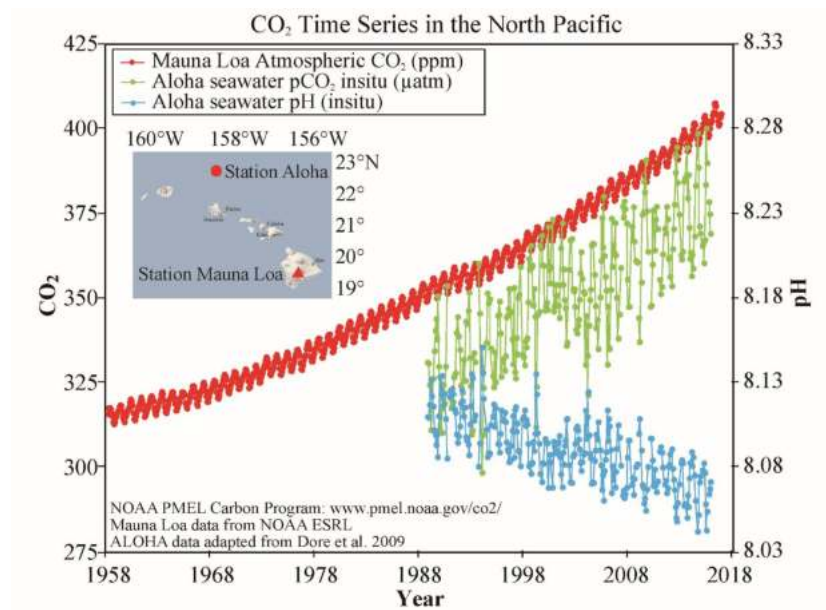

Figure 6.6: Measured Pacific Ocean CO2 content increase and pH decrease shown alongside atmospheric CO2 increase. From Unesco
Figure 6.3: The atmospheric levels of  $\text{CO}_2$ , methane, and nitrous oxide as determined from ice core samples since the end of the last ice age 11,000 years ago. Note that the present-day value of 407 ppm  $\text{CO}_2$  is far above the top of the plot. From AR5 WG1 Figure 6.6.
- The *oceans* contain nearly 40,000 GTC of dissolved CO2, dwarfing the amount in the atmosphere. Increasing the atmospheric concentration of CO2 causes more to be dissolved into the water. The surface ocean will re-equilibrate with the air on a timescale of decades, but it takes 103 years for the surface ocean water to fully mix with the deep oceans and equilibrate the CO2 levels. As water dissolves CO2, it becomes more acidic. Figure 6.6 shows measurements of average ocean pH over the past 20 years, confirming the expected drop as excess CO2 dissolves into the oceans.